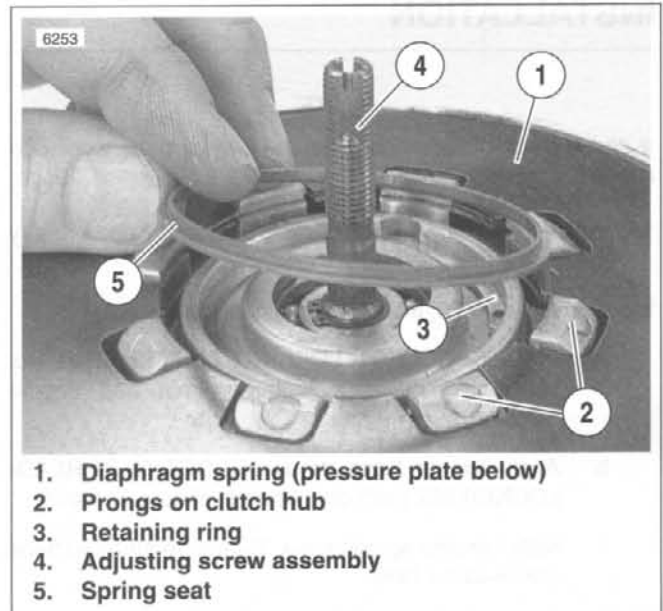

Figure 6-21. Spring Seat Installation
- See Figure 6-21. Align square openings of pressure plate and diaphragm spring (1) so that the assembly can be installed over prongs (2) of clutch hub.
- Position spring seat (5) with its larger O.D. side toward diaphragm spring (1).
- See Figure 6-21. Position diaphragm spring (1) with its concave side facing toward pressure plate onto pressure plate assembly.